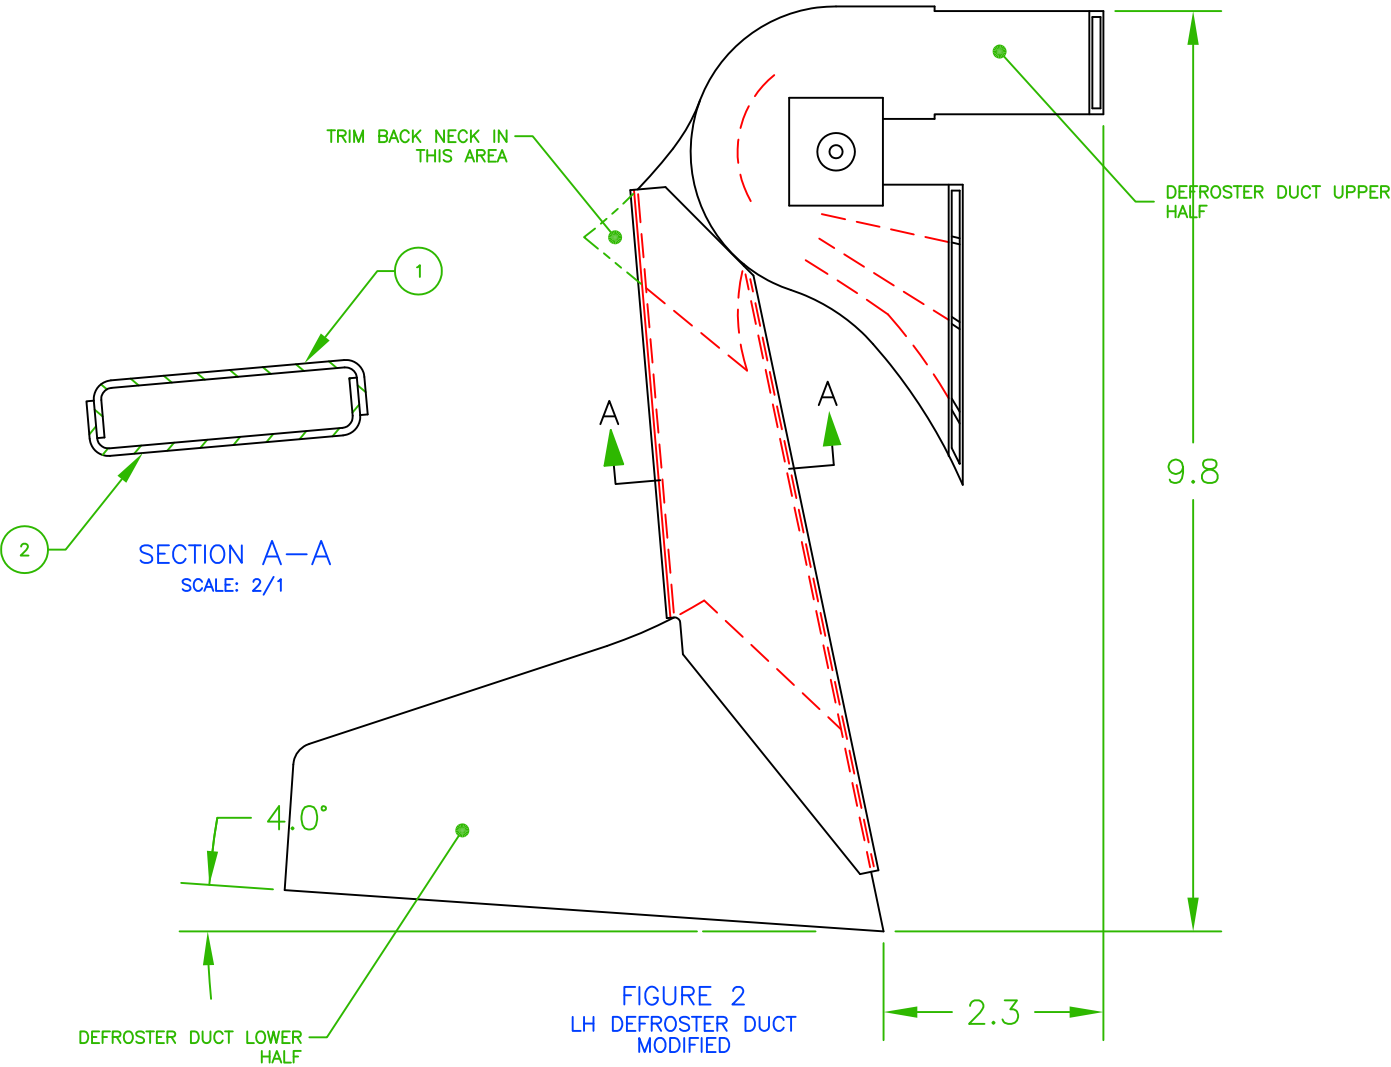

FIGURE 2
- POSITION DUCT LOWER HALF TO UPPER HALF PER DIMENSIONS IN FIGURE 2.
- TRIM BACK NECK OF DUCT UPPER HALF AS INDICATED IN FIGURE 2.
- BOND DUCT EXTENSIONS TO DUCT UPPER AND LOWER HALVES AS SHOWN IN FIGURE 2, USING ADHESIVE, ITEM 3.